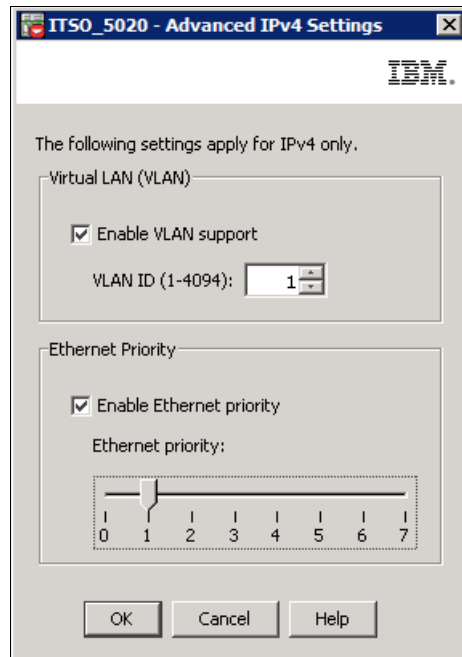

Figure 3-18 VLAN and Priority
2. Select an iSCSI host port, and assign the IP address, mask, and gateway as usual with all Ethernet cards, in either of the IPv4 or IPv6 tabs. If you are planning to use VLAN Tags (802.1Q), or set Ethernet priority (802.1P), click **Advanced IP Settings** to define them, as shown in Figure 3-18. Repeat the process for at least one port in controller A, and one port in controller B.
Set Jumbo Frames, VLANs, and Ethernet priority in the iSCSI adapter in accordance to the settings specified in the DS Storage Manager in Figure 3-18, “VLAN and Priority” on page 82.